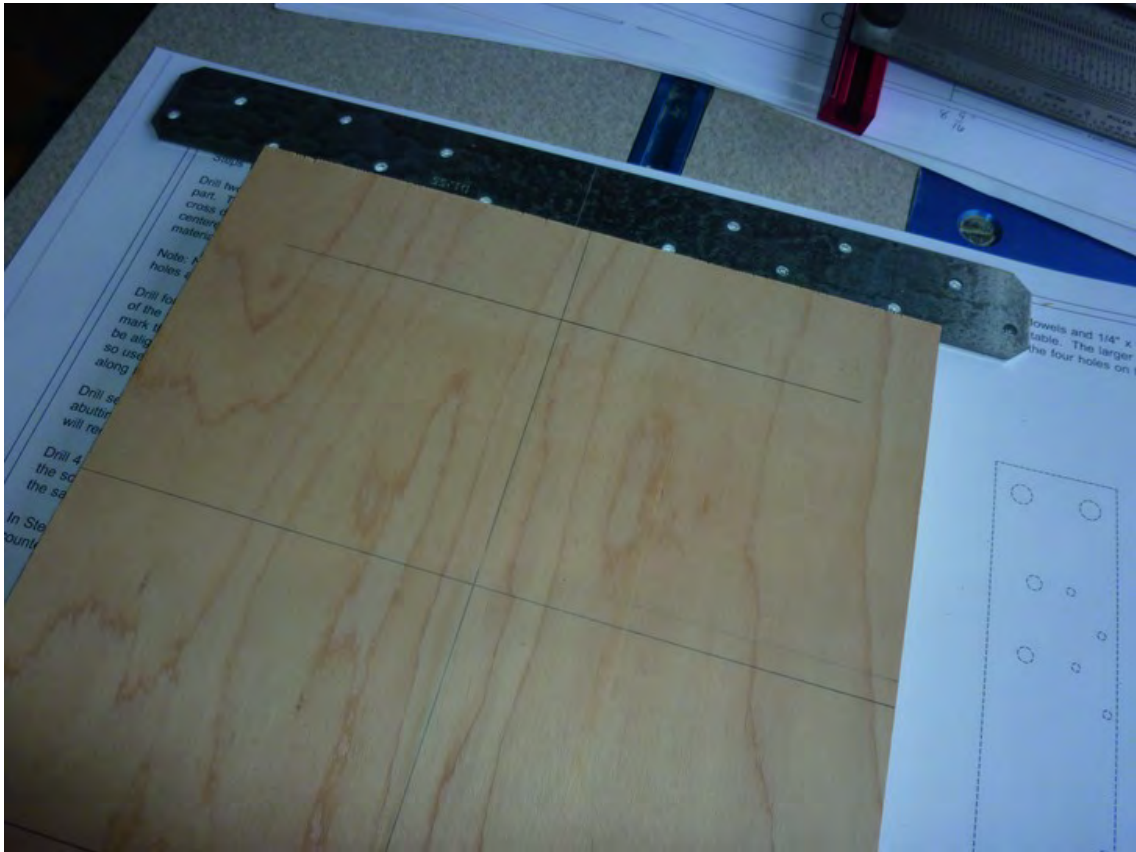

Figure 9-10. Part C with all lines marked for proper placement of brackets.
You can cut out the full-size template and tape it to the top of Part C to mark the drill holes if you like, but we wanted to make absolutely certain that the Strong-Tie brackets were mounted parallel to one another and bolted down accurately, so we chose instead to draw centerlines both horizontally and vertically on Part C, as seen in Figure 9-10. Note that we also took a 1-5/16" measurement from the building plans for the lines that indicate where the edge of the Strong-Tie rails will be located. If you refer to the building plans, you'll see the dotted lines we drew on Part C indicate the Edge of Rail lines (2) and the middle lines that crisscross the part.